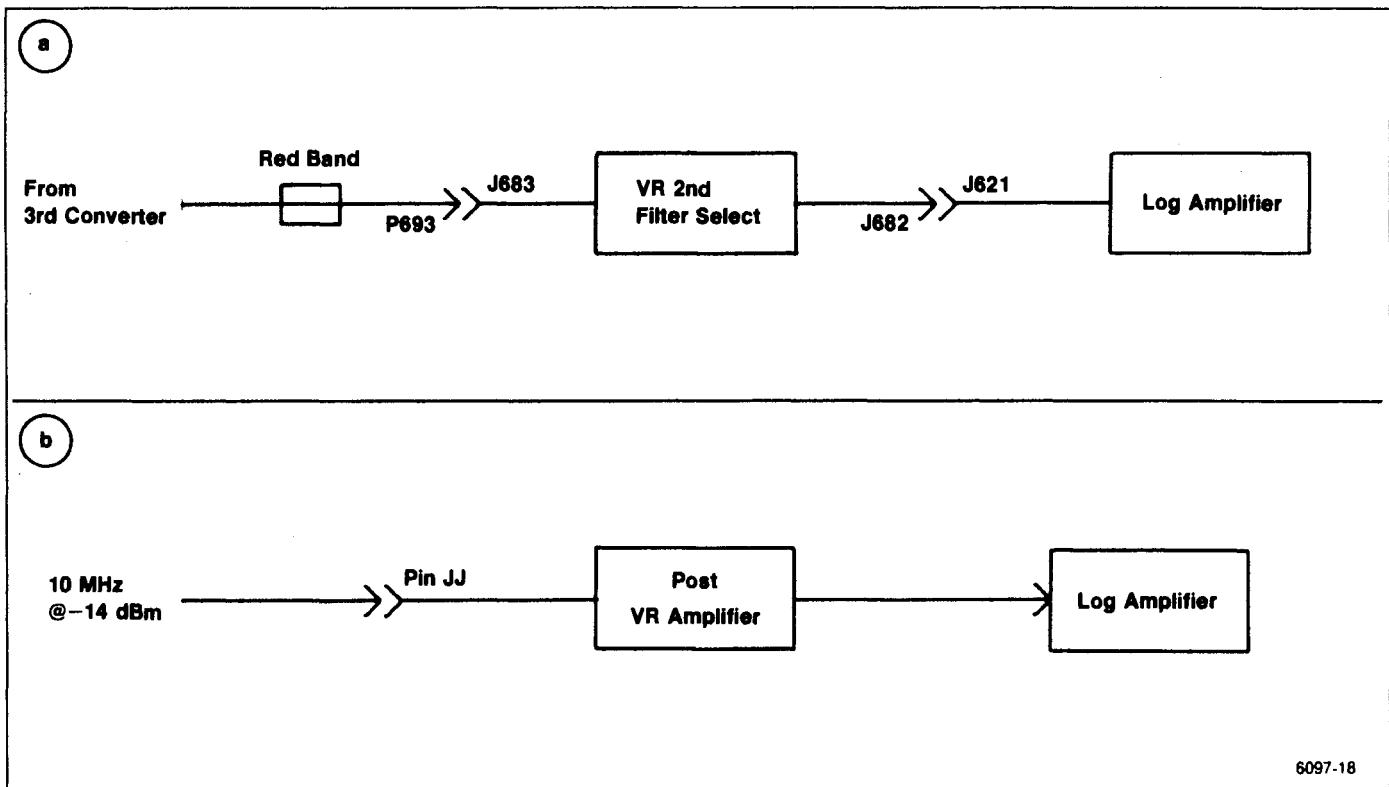
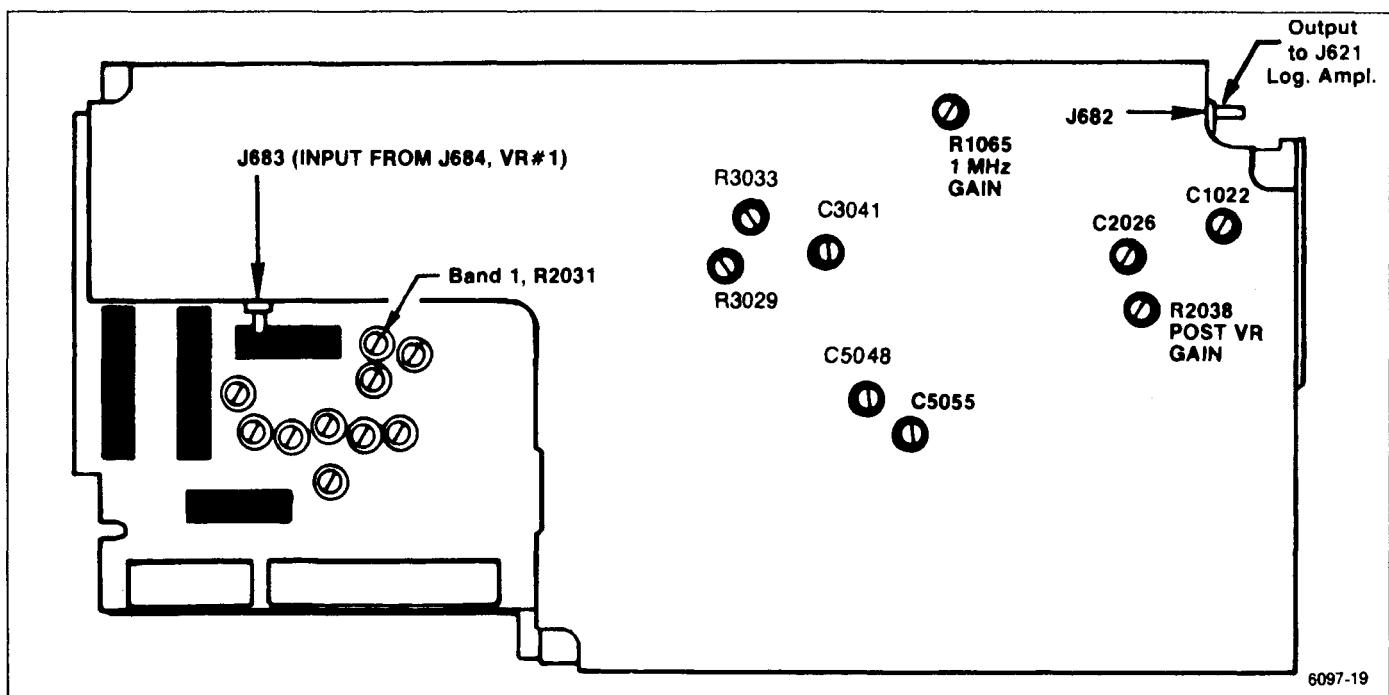
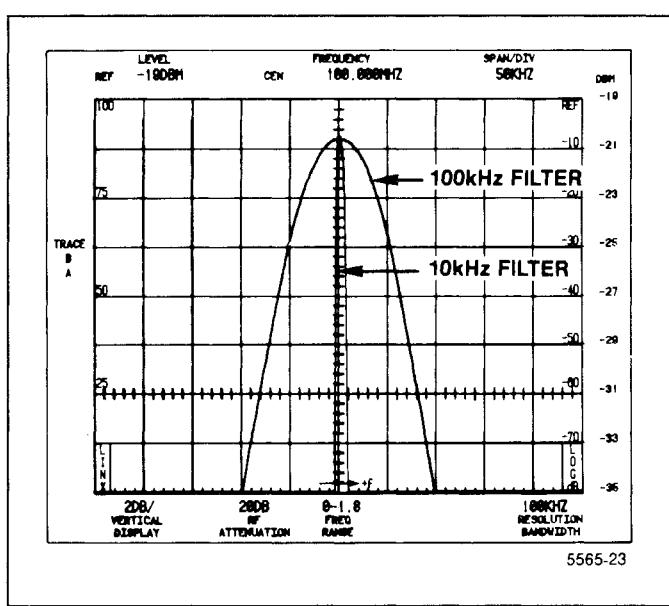
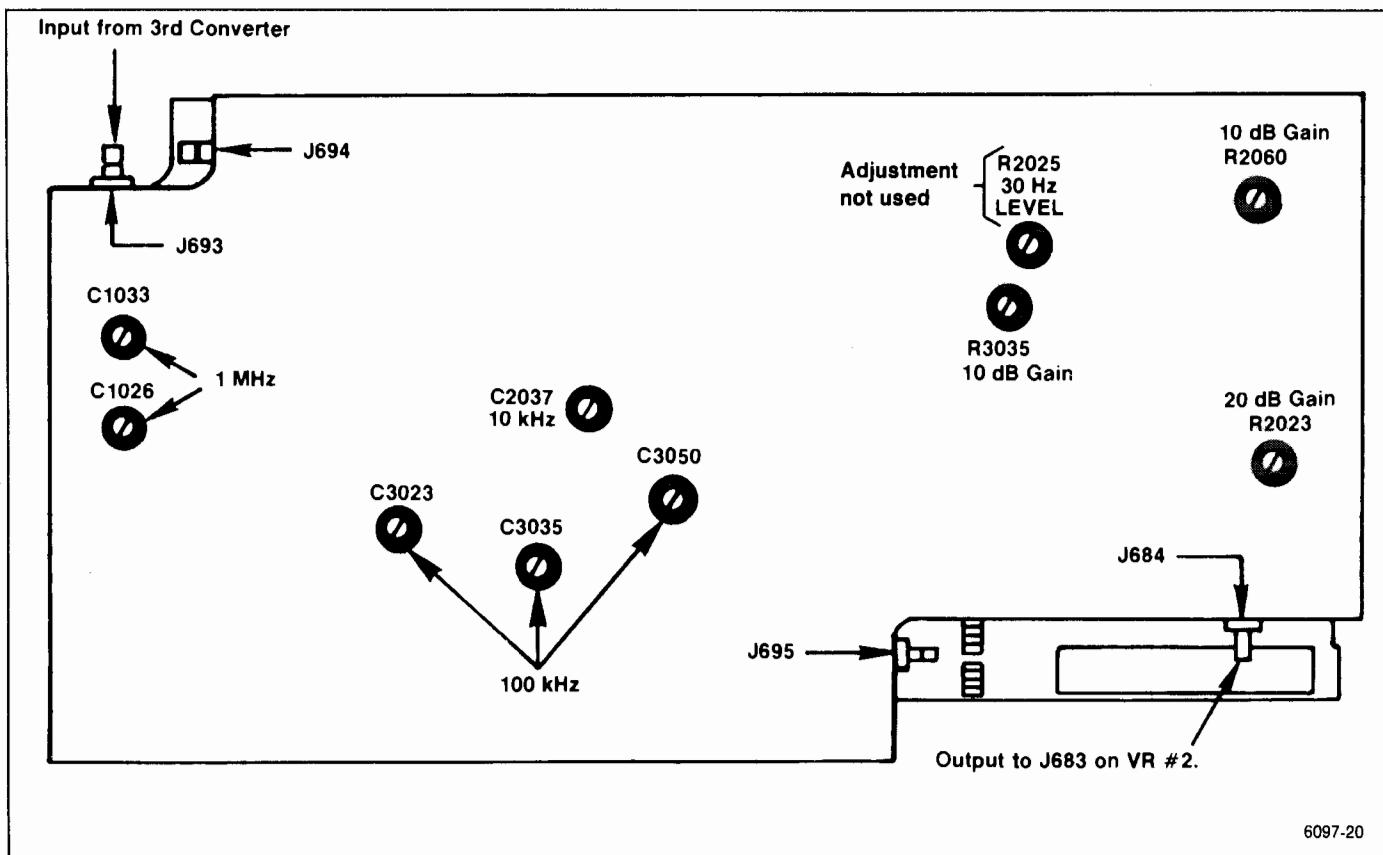

Figure 5-16. Test equipment setup for adjusting the Variable Resolution module.
Figure 5-17. Adjustments on the front of the Variable Resolution module.
Figure 5-18. 100 kHz filter response over 10 kHz filter response.
Figure 5-19. Adjustments on the rear of the Variable Resolution module.
- a. Equipment setup is shown in Figure 5-16.
- (1) Remove and install the Variable Resolution module on an extender.
(2) Use a Sealectro male-to-male adapter and coaxial cable to connect the 10 MHz IF output signal, from the 3rd Converter, to the input of the second section (make connection from plug removed from J693 to J683).
(3) Connect the Variable Resolution output to the input of the Log Amplifier assembly by connecting a cable from J682 on the Variable Resolution Module to J621 on the Log & Video Amplifier assembly (see Figures 5-17 and 5-16).
(4) Apply the CAL OUT signal to the RF INPUT, and set the Spectrum Analyzer controls as follows:
d. Adjust C5055, C5048, and C3041 on the VR 2nd Filter Select board (Figure 5-17) for the best 100 kHz filter response (100 kHz bandwidth, 3 dB down, that is centered about the 10 kHz reference). Refer to Figure 5-18.
g. Adjust C2026 and C1022 (Figure 5-17) for the best 1 MHz response centered about the 10 kHz filter response.
h. Disconnect the 10 MHz third converter IF signal from J683 and reconnect it to J693 (see Figure 5-19). Reconnect P683 to J683 (Figures 5-16 and 5-17).
k. Adjust C2037 (Figure 5-19) for the best 10 kHz response centered about the 1 kHz reference.
- n. Adjust C3050, C3035, and C3023 (Figure 5-19) for the best 100 kHz response centered about the 10 kHz filter reference. o. Set the RESOLUTION BANDWIDTH to 1 MHz, FREQ SPAN/DIV to 500 kHz.
- p. Adjust the 1 MHz filter response and centering with C1033 and C1026 in the VR Input board (Figure 5-19). Deactivate SAVE A.
Locations of the adjustments are shown in Figure 5-17.
d. Set the front panel AMPL CAL fully ccw and set the Band 1 Gain R2031 on VR Mother board #2 (Figure 5-17) fully ccw.
e. Disconnect P693 (Figure 5-19) and activate MIN NOISE. Apply a 10 MHz, -25 dBm signal, from the signal generator, through a bnc-to-Sealectro adapter to J693. Set the generator frequency to peak the signal amplitude. (Signal amplitude should be between 3.5 and 6.5 divisions. If signal amplitude is not within these limits it indicates a gain problem in the Variable Resolution module.)
f. If the signal amplitude is over 5 divisions, adjust the Post VR Gain R2038 (Figure 5-17) for a 5 division signal amplitude.
h. Switch MIN NOISE off, decrease the generator output to -35 dBm, leave the REF LEVEL at -20 dBm, and adjust the 10 dB Gain R3035, on the 10 dB Gain board (Figure 5-19) so the signal amplitude is 7 divisions.
i. Change the generator output to -45 dBm, the REF LEVEL to -40 dBm, and adjust the 20 dB Gain R2023 on the 20 dB Gain Step board (Figure 5-19) for a
j. Change the generator output to -65 dBm, the REF LEVEL to -60 dBm, and adjust the 10 dB Gain R2060 on the 20 dB Gain Step board (Figure 5-19) for a 7 division signal amplitude.